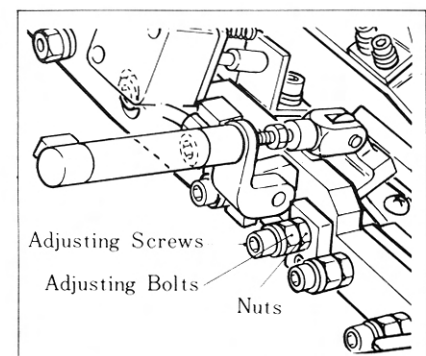

Figure 17
6. Alignment of Flap Clamp (Figure 17)